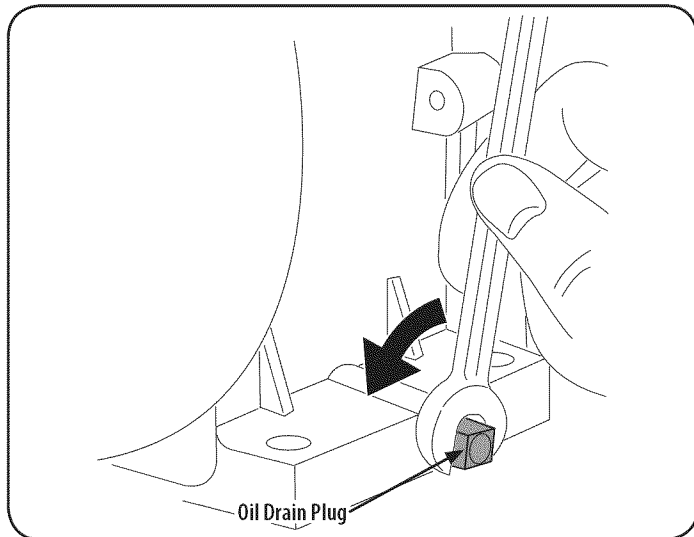

Figure 11
- Remove the oil drain plug. See Figure 11.